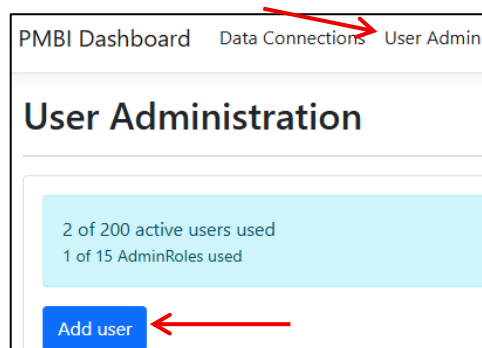

Figure 5: The Add User button
2. Click **Add User** (fig. 5).